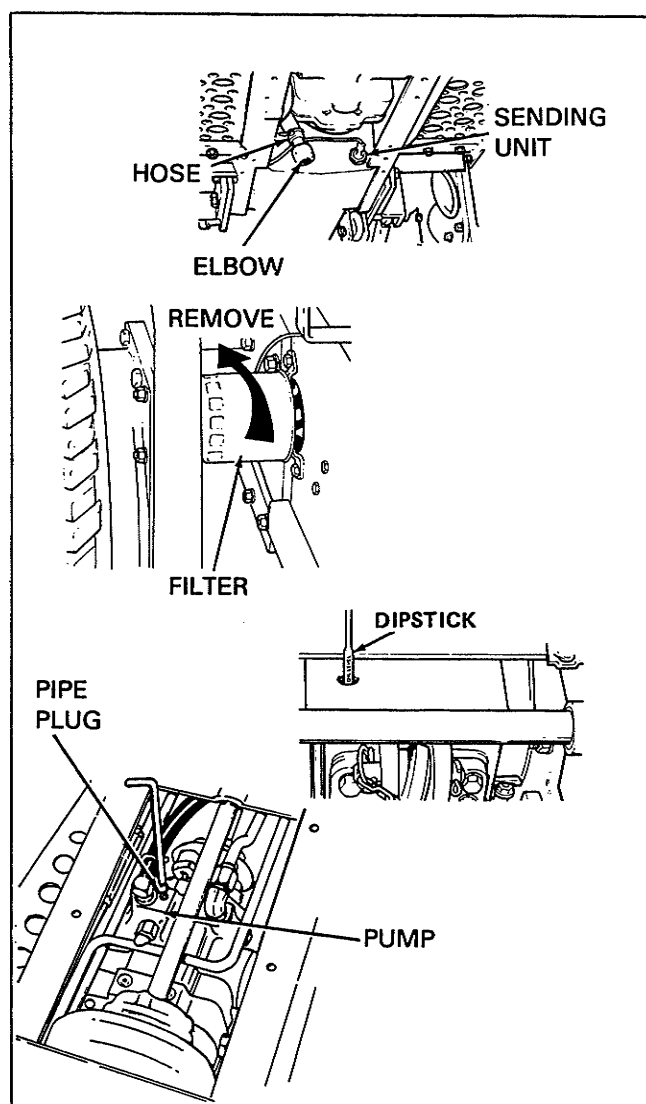

Figure 3. Transmission Fluid and Filter
**Transmission Priming Procedure (Figure 3)**
3. Remove the pipe plug from the pump. Pour transmission oil through the pipe plug hole, while cranking engine, until it overflows (see Figure 3).
7. It is recommended that a charge pump pressure reading and an implement reading be taken at this time. To do this, insert a pressure gauge which reads more than 1000 psi into the pipe plug hole (see Figure 3). A charge pump reading is taken by running the engine at 3/4 to full RPM which should give a reading of 50-150 psi. For the implement reading, keep engine at same RPM, and pull lever rearward, which should give a reading of 550-800 psi.